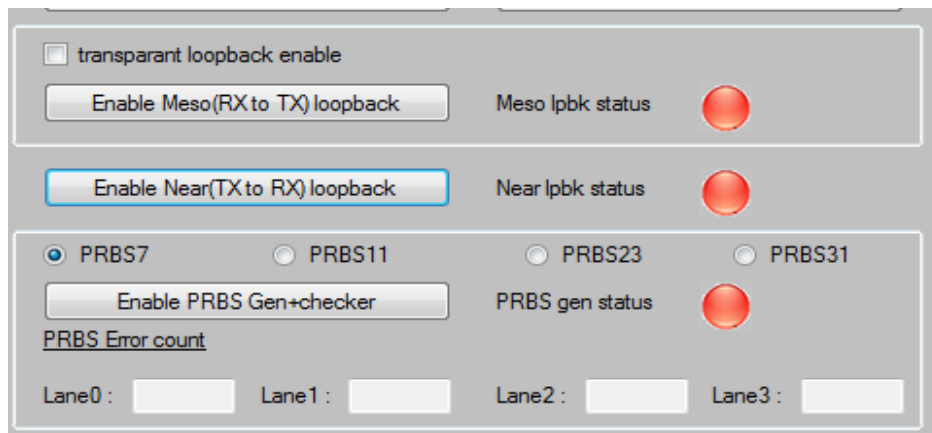

Figure 32 Disabling Internal Loopback
12. Click **Disable PRBS Gen +checker** to stop the packet transmission and click **Disable Near (TX to RX) loopback** to disable the loopback. After clicking, **Near LPBK status** and **PRBS gen status** indicators change to red. Figure 32 shows Disabled Internal Loopback.